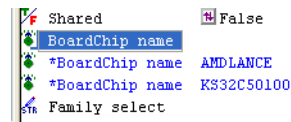

Figure 5-8 Setting up the EtherRouter.bcd
6. Select **AMDLANCE** from the context menu. A new setting is added to the right pane with an asterisk \* beside it, shown in Figure 5-8.